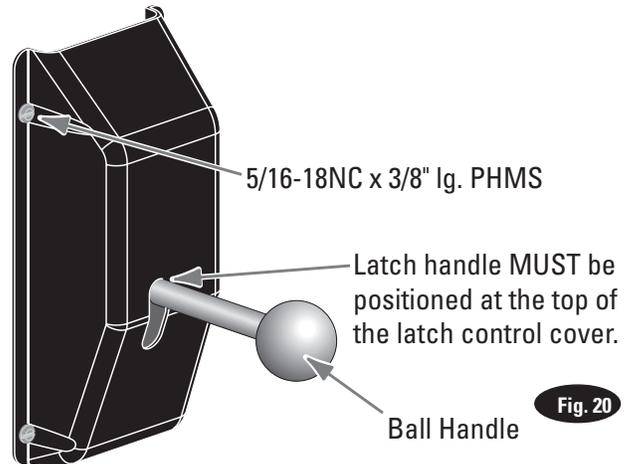

Fig. 20
- I) At this point you **MUST** install the latch handle, jam nut, and right column latch cover Fig. 17 & Fig. 20. Install latch handle ball, Fig. 20.